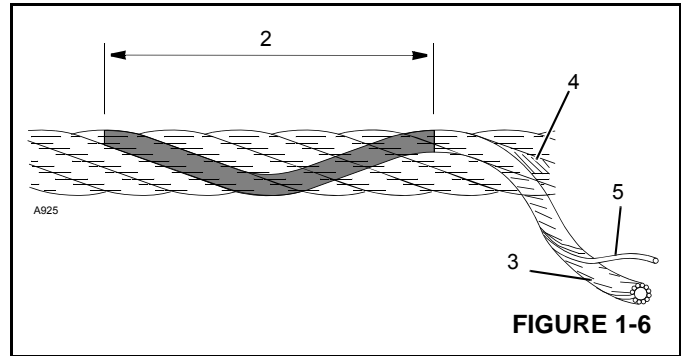

FIGURE 1-6
13. When checking for broken wires (5) (Figure 1-6) relax the rope, move it off "pick-up points", and flex it as much as possible. Use a sharp awl to pick and probe between wires and strands, lifting any wire which appears loose or moves excessively. Defect in the rope is spoke of in relations to "Lay Length" (2) which is the distance measured along rope in which one strand (3) makes one complete revolution around core (4).